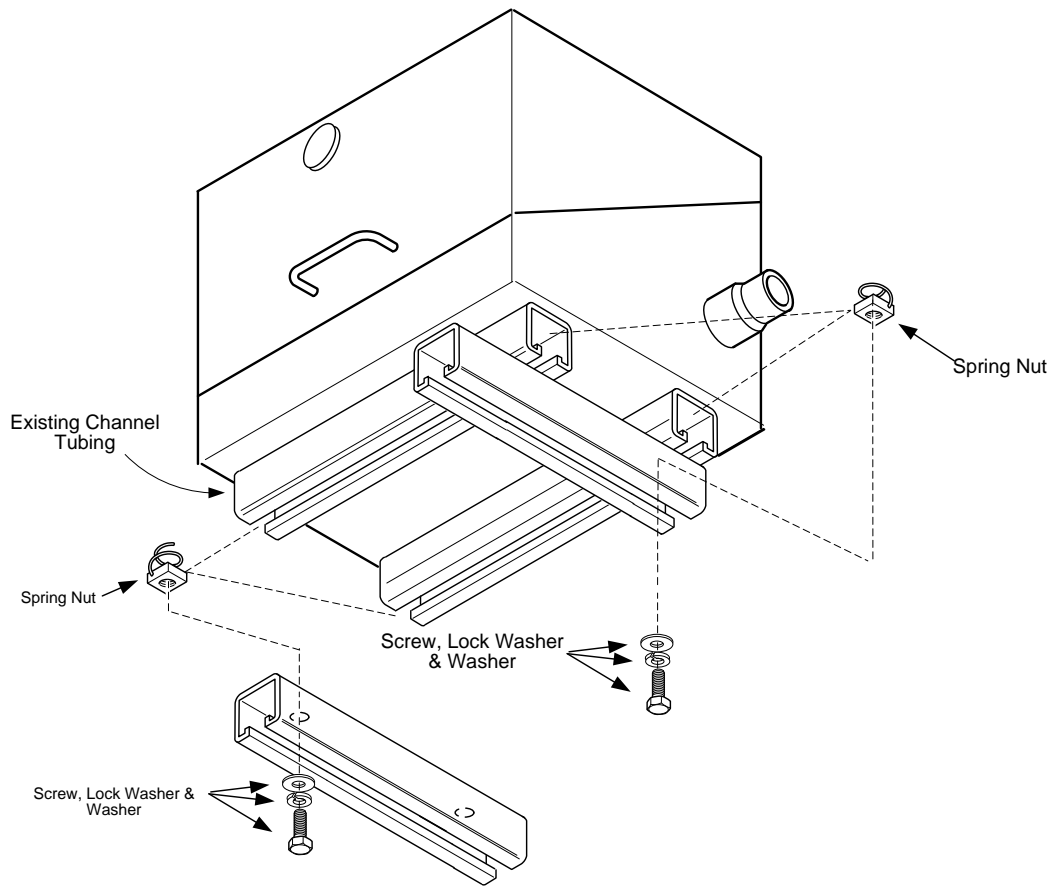

Figure 3-15 ENC82S–Channel Tubing Installation
- 2) Insert and move each spring nut into approximate position inside of existing channel tubing (see Figure 3-15).